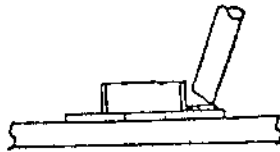
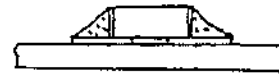

Fig. E-2 Component Soldering
Fig. E-3 Solder Flow
2. Position new component, and apply soldering iron tip to PC pattern as shown in Fig. E-2 (page E.1 - 2). Solder should flow to the end of the chip component, as shown in Fig. E-3 (page E.1 - 2).